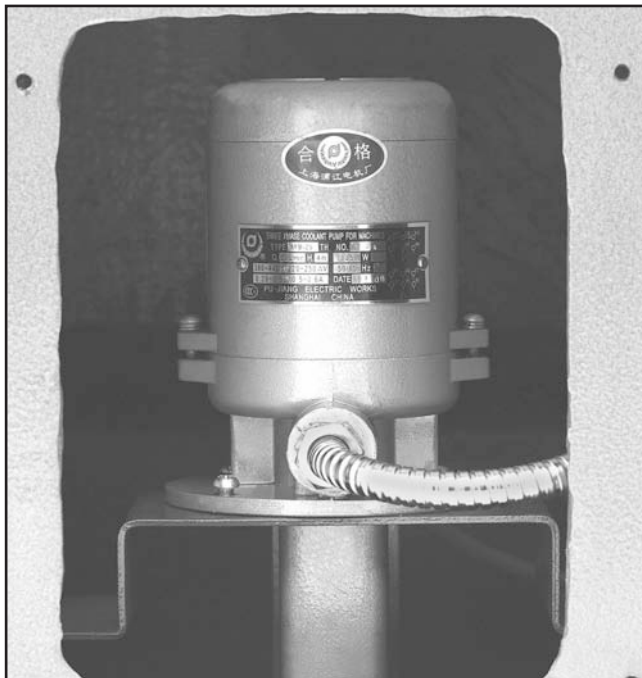

Figure 99. Coolant pump and reservoir.
1. Remove the access cover at the rear of the lathe (**Figure 99**).